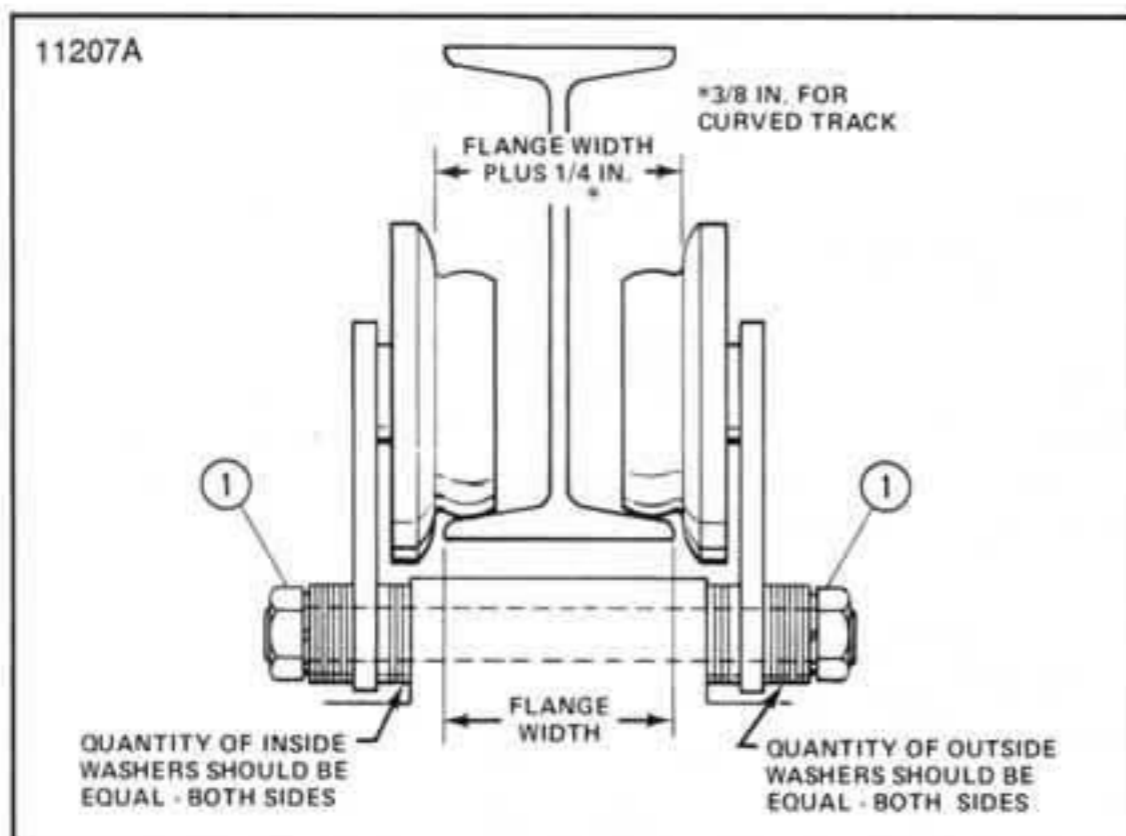

Figure 2-1. Sectional View of Trolley showing proper wheel and washer spacing.
For trolleys which are to be mounted along the span of a beam not having open ends, measure exact width of beam flange and assemble trolley to hoist so that spacing between wheel flanges is 1/4" (see Figure 2-1) greater than beam width (3/8" if beam has curves). This is accomplished by rearranging the spacer washers on the bolts connecting trolley side plates to hoist mounting lug. If trolley is shipped separate from hoist, see instruction sheets furnished with trolley for orientation and installation.
When proper spacing has been determined, loosen mounting nuts (item 1, Figure 2-1) to allow trolley wheels to spread far enough to pass over edges of beam flange. (Some installations may require complete removal of one trolley side plate.) Using adequate equipment, carefully lift the hoist and trolley so the wheel treads will rest on the lower beam flange. Replace side plate and washers if removed for installation. Replace suspension stud nuts.
b. **Trolley Mounted** hoists are attached to moveable trolleys. If hoist is mounted on an existing trolley, a qualified person shall determine that the trolley and its supporting structure are adequate to support the rated load and weight of the hoist. Hoist/trolley units may be shipped from the factory with trolley packaged separately. If the trolley can be installed directly over the end of the supporting beam, assemble trolley to hoist. Be certain that the spacing between wheel flanges, after assembly, is 1/4" greater than exact width of beam flange. (See Figure 2-1